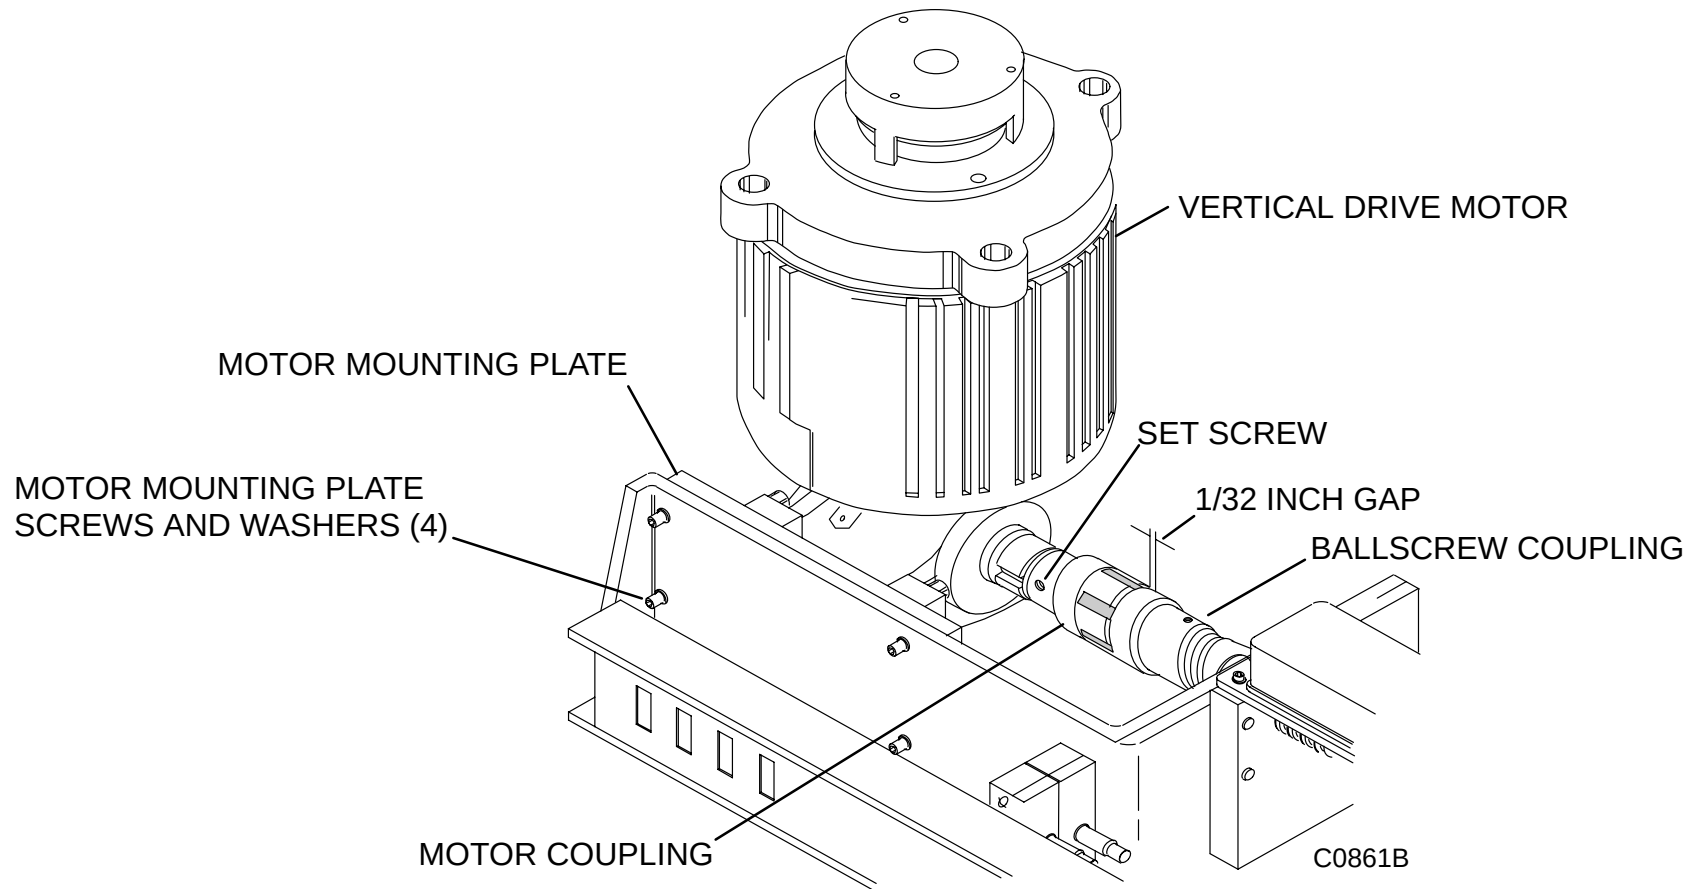

FIGURE 210 VERTICAL DRIVE MOTOR MOUNTING PLATE SCREWS
10. Remove the four mounting plate screws and washers. See Figure 210.
24. Maneuver the motor assembly into position and secure the motor mounting plate to the patient support frame with the four motor mounting plate screws and their washers. Refer to Figure 210.
25. On the motor shaft, slide the motor coupling along the shaft until there is a 1/32 inch gap between the motor coupling and the ballscrew coupling. Refer to Figure 210.